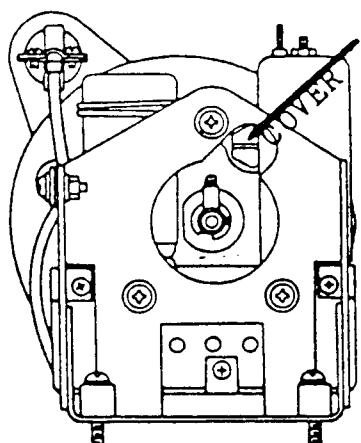

FIGURE 2
(2) PTO End Point Adjustment Cover Removal The location of the slotted hex nut which covers the end point adjustment control is shown in Fig. 2 below. Older PTO's may not look exactly like Fig. 2 (some do not have the same shaped cut-out holes which give access to the slotted hex nut through the front bracket of the PTO), but the position of the hex nut is the same in all models. With the appropriate size screw driver, remove the slotted hex nut, and place it with the anti-backlash spring and Oldham coupler guide.